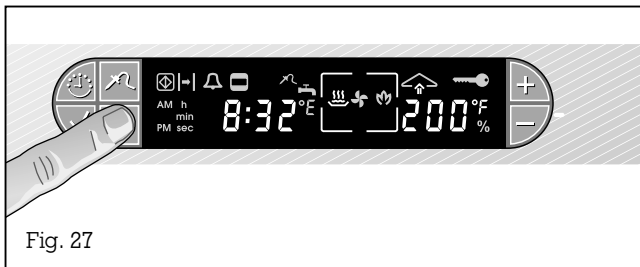

Fig. 27
- Press the  $\uparrow$  (Steaming / Condensing) key for approx. one second (Fig. 27).